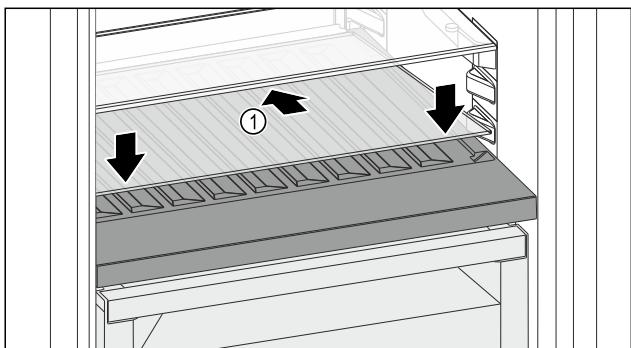

Fig. 142
- Place the glass shelf Fig. 142 (1) at an angle, sloping it downwards and backwards.
- Lower the glass shelf Fig. 142 (1) at the front.